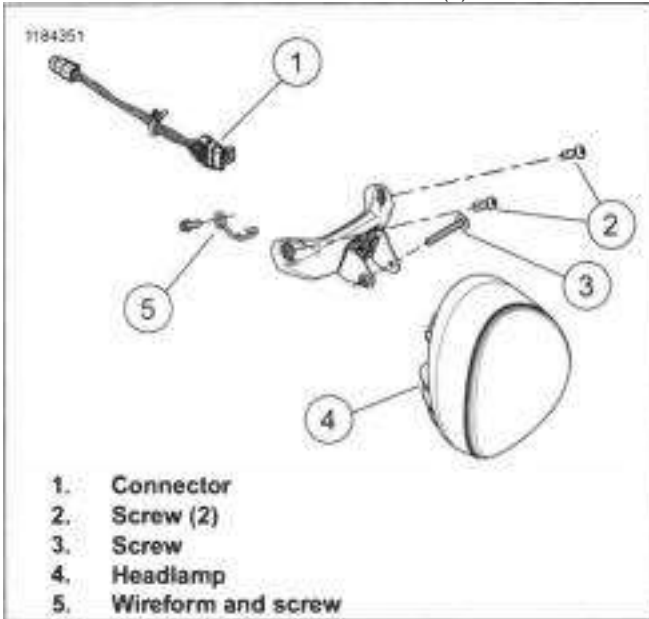

Figure 7-52. Headlamp: FXBRS (Typical)
1. FXBRS: See Figure 7-52. Remove clutch cable from wireform (5).
2. Disconnect connector (1).
- a. Remove screws (2).
- a. Remove screw (3).
- b. Remove headlamp (4).
2. See Figure 7-52. Install headlamp to bracket.
- a. Install headlamp (4).
- b. Install screw (3). Tighten.